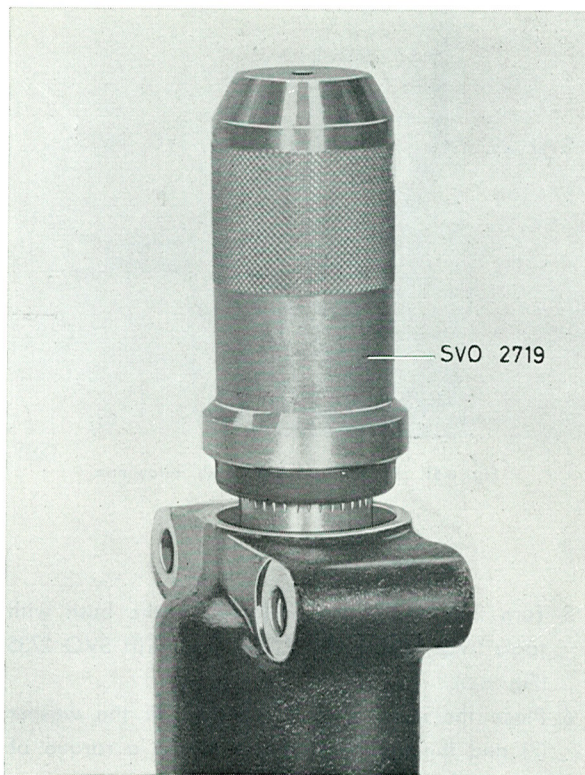

Fig. 6-46. Fitting the oil seal, pitman arm shaft
13. Lubricate the steering cam with some drops of oil and fit the cam, the washer (5) and the circlip (4). Check that the steering cam can be turned easily without play. If play occurs, replace the washer (5) with a thicker one.
14. Lubricate and fit the pitman arm shaft. Put on the cover (6) with gasket. Screw out the adjusting screw (2) far enough for the roller on the pitman arm shaft to run free of the steering cam when the bolts (1) for the cover are tightened. Fit and tighten the bolts (1).
15. Lubricate the oil seal (14) and fit it with tool SVO 2719, see Fig. 6-46.